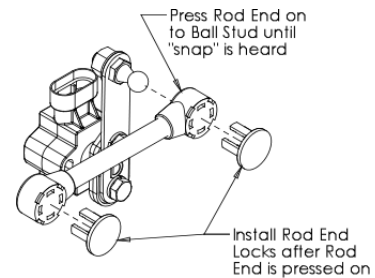

Figure 5. Steering Sensor Linkage Installation
5. Remove (2) OEM M14 nuts from OEM gearbox mount bolts
9. Re-install locking clips as shown in Figure 5.